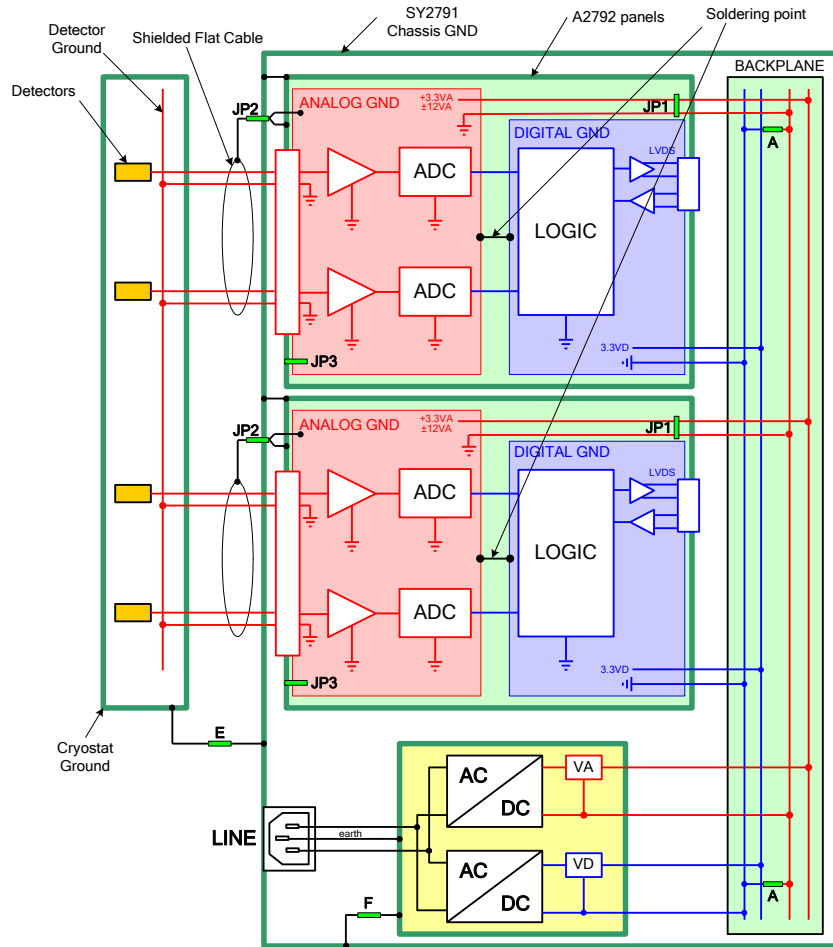

Fig. 2.5: Power Supply and Ground layout with a possible scheme of ground connections to the detector.
The acquisition board has separated analog and digital grounds (see Fig. 2.5). However, the two grounds can be connected on the A2792 in three different ways:
- with a soldering point close to the ADC's (see Fig. 2.5)